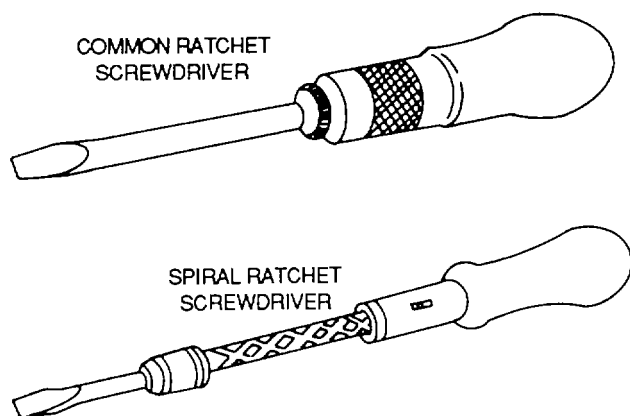

Figure 4-16. Ratchet Screwdrivers
(4) *Ratchet screwdrivers.* The ratchet, or spiral, screwdriver shown in figure 4-16 is fast acting in that it turns the screw when the handle is pulled back and then pushed forward. It can be set to turn the screw either clockwise or counterclockwise, or it can be locked in position and used as a standard screwdriver. The ratchet screwdriver is not a heavy-duty tool and should be used only for light work.